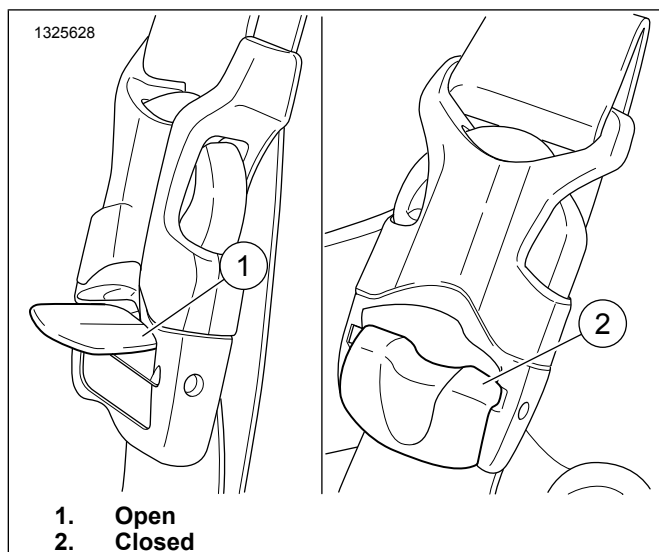

Figure 5. Open/Close Clasp
5. See Figure 5. Close clasp to secure strap tightness.